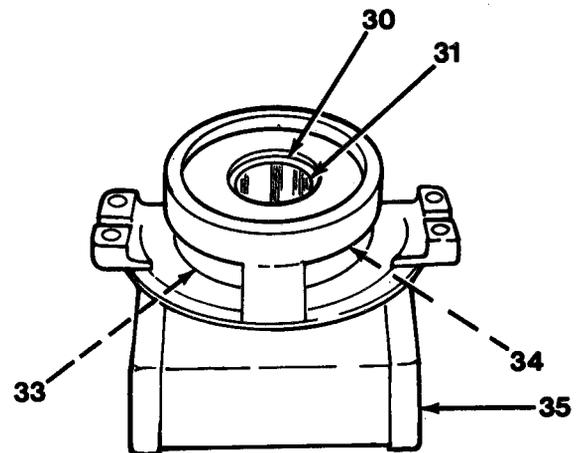

Figure 15-11
20. Remove cone (31) from housing (35, Figure 15-11).
22. Remove vent plug (33) and grease zerk (34) from housing (35, Figure 15-11).
1. Install grease zerk (34) and vent plug (33) to housing (35, Figure 15-11).
3. Install one of two bearing cones (31) and seal (30, Figure 15-11).